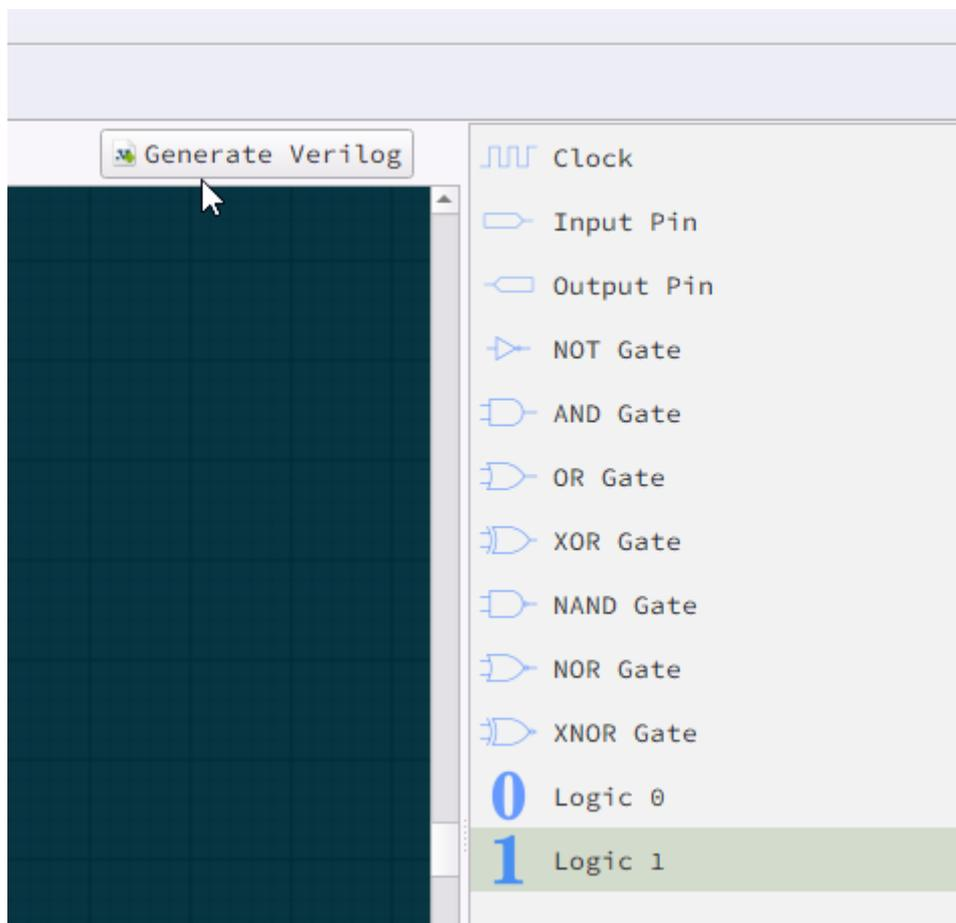

Figure 5: Generate Verilog Code from MacroCell Design
5. After you are satisfied with your design, click on the Generate Verilog button on the right to generate the Verilog Code for the design you just created (see Figure 5).